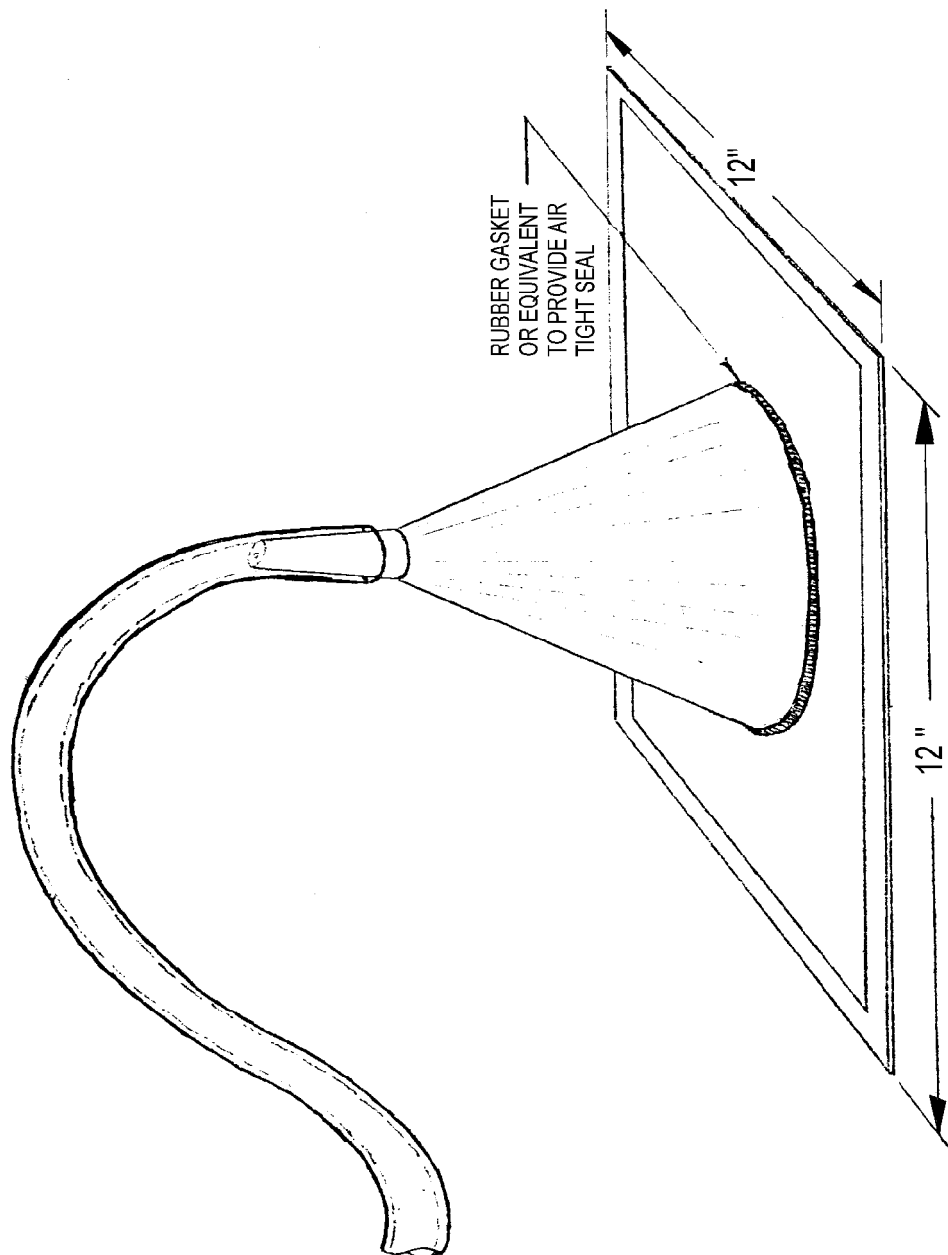

Figure 1
1. Place the vacuum funnel on the center of the test panel or on the test vehicle's top as illustrated in Figures 1 and 2.